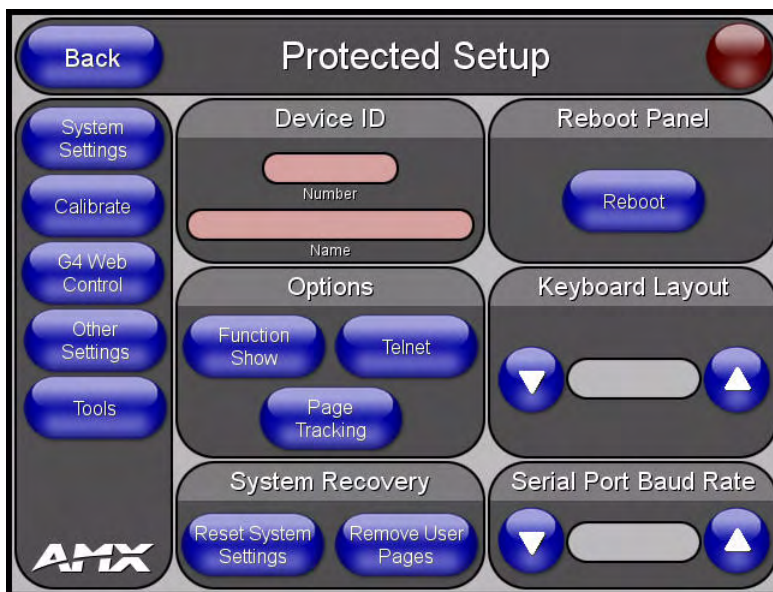

FIG. 32 Protected Setup page
6. Press the **Protected Setup** button (located on the lower-left of the panel page) to open the *Protected Setup* page (FIG. 32).
6. Press the **Protected Setup** button (located on the lower-left of the panel page) to open the *Protected Setup* page (see FIG. 32 on page 37).